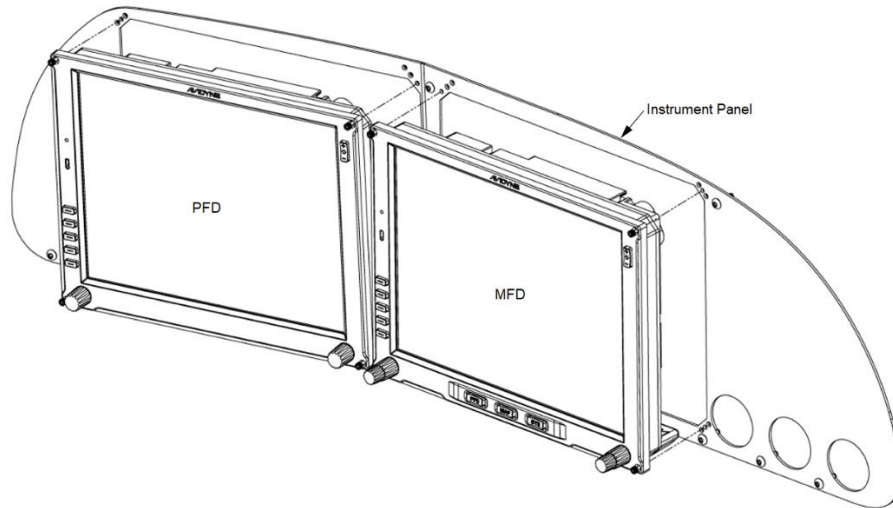

Figure 4-23: Vantage Display Installation
2. Per Figure 4-23: Vantage Display Installation, fasten the Vantage12 displays using a 7/64" hex driver on the captive screws.